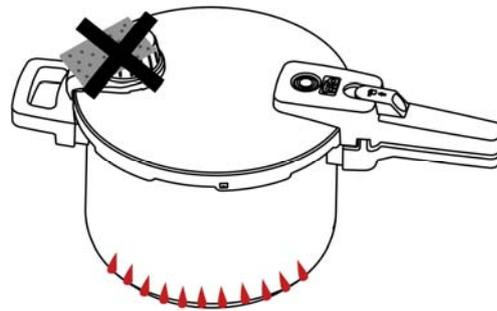

Fig.5
14、 It is prohibited to put anything on the pressure-limiting valve.(Fig.5)